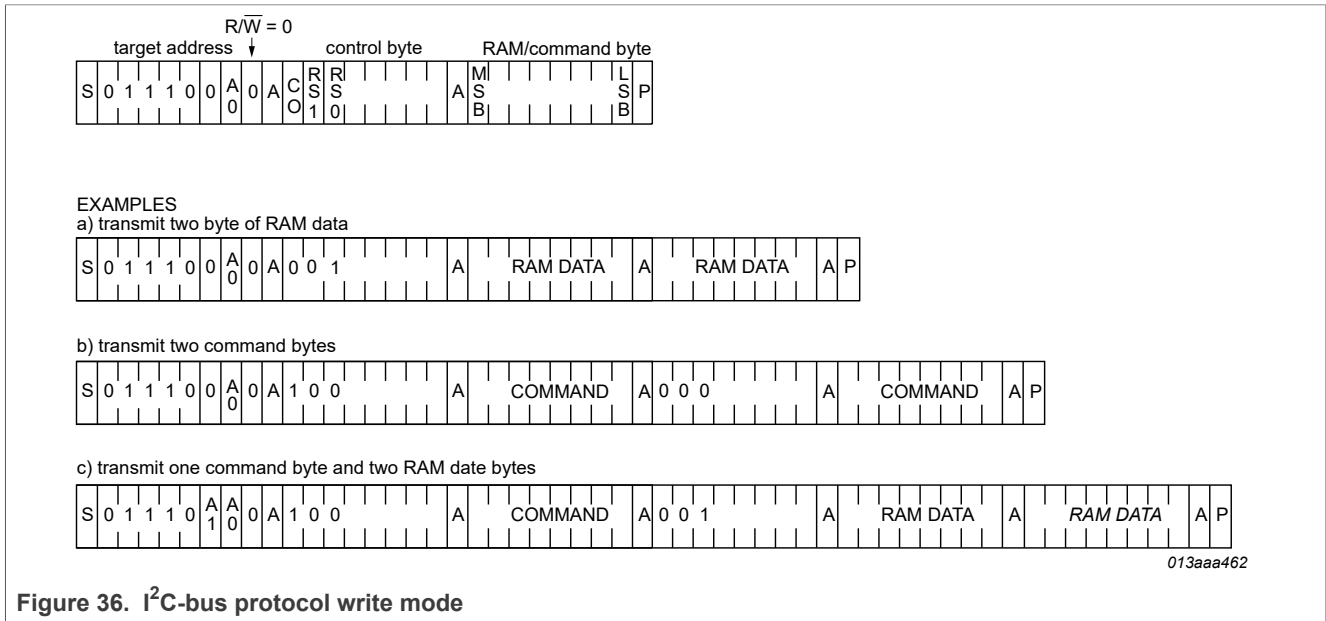

Figure 36. I2C-bus protocol write mode
The I2C-bus protocol is shown in Figure 36. The sequence is initiated with a START condition (S) from the I2C-bus controller which is followed by one of the two PCA8536 target addresses available. All PCA8536 with the corresponding A0 level acknowledge in parallel to the target address, but any PCA8536 with the alternative A0 level ignore the whole I2C-bus transfer.